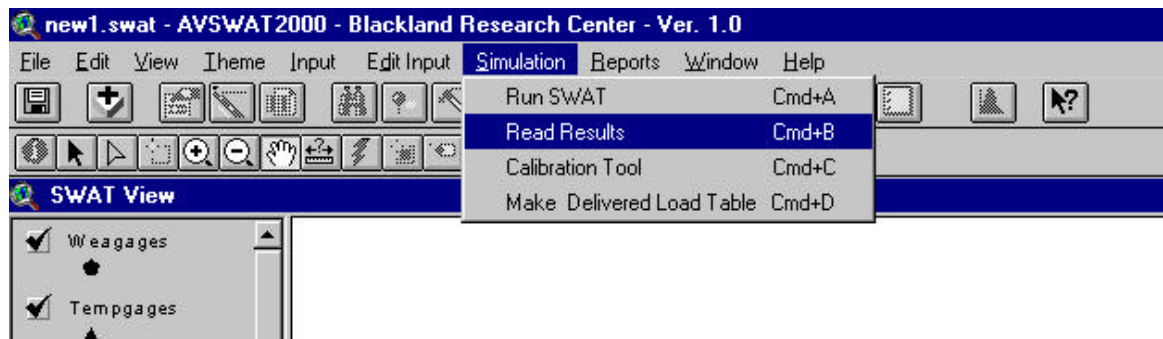

Figure 13.31
1. Select **Read Results** from the **Simulation** menu (or press `Cmd+B`) (Figure 13.31).